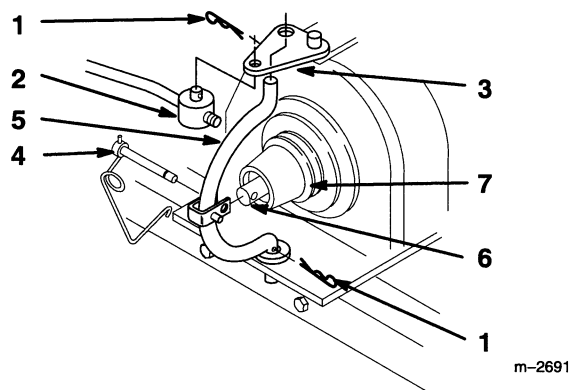

Figure 8
4. Remove hairpin cotters from trunnion and bottom of yoke (Fig. 8).
5. Unlatch and remove locking clevis pin that secures yoke assembly to clutch shaft. Pivot yoke out and forward to remove from clutch shaft and engagement plate (Fig. 8).
6. Place belt in inside pulley groove (Fig. 8).
7. Assemble yoke and engagement plate and attach locking clevis pin, trunnion and hairpin cotters to secure (Fig. 8).